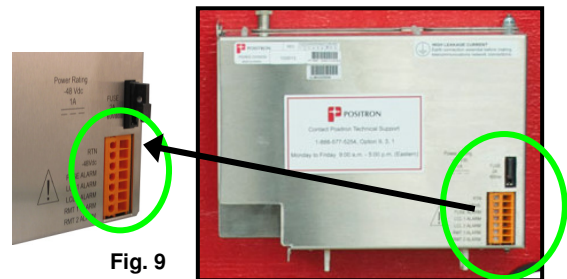

Fig. 9
**1.7.3** If a -48Vdc source is already locally available, feed the -48Vdc in through the universal, fused power input terminal block and connect the pre-installed Orange and Yellow conductors to the -48Vdc input power terminals located on the side of the TeleLite 3-slot “Swing-Out” shelf. See Figure 9.